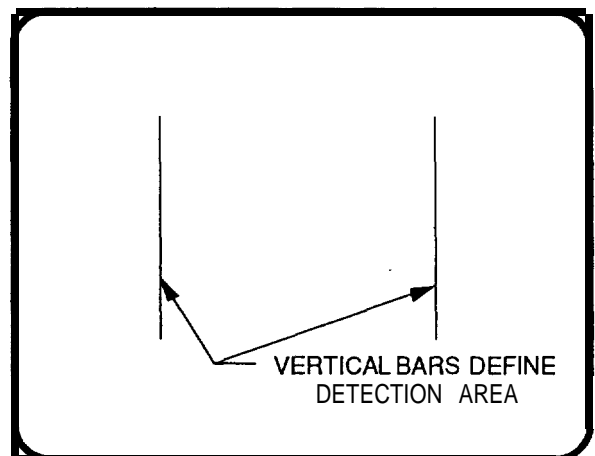

Figure 4 - On-Screen Display
DISPLAY (+/-) - This two position toggle switch activates (+) or deactivates (-) display of the two vertical bars indicating the area of the picture in which motion is detected. (See Figure 4, On-Screen Display, page 4.) It does not otherwise affect the operation of the unit. The activated (+) position is normally used unless public display of the area in which motion is being detected is inadvisable.
- 4) Turn the DISPLAY switch to active (+). Note the twin vertical bars, as shown in Figure 4, On-Screen Display. These bars define the rectangular area of the picture within which motion is detected. The size of this area may be adjusted using using the front panel screwdriver controls for vertical (VERT) and horizontal (HORIZ) position (P) and size (S). Set the sensitive area to cover the region of the picture within which motion is to be detected.
- 7) Sensitivity; the most critical adjustment, is adjusted using the screwdriver control SENS. The setting should be low enough to avoid false or unwanted alerts caused by normal motions such as birds or blowing trees, but high enough to detect motions of interest. The optimum setting is best determined by experiment at the site at which the 1461 is to be used. Start with the as-shipped, midrange setting. Simulate anticipated motions which should and should not cause an alert. If the results are unsatisfactory: raise (CW) or lower (CCW) the sensitivity, reset the unit with the RST button, and repeat the simulated activity until satisfactory performance is obtained.